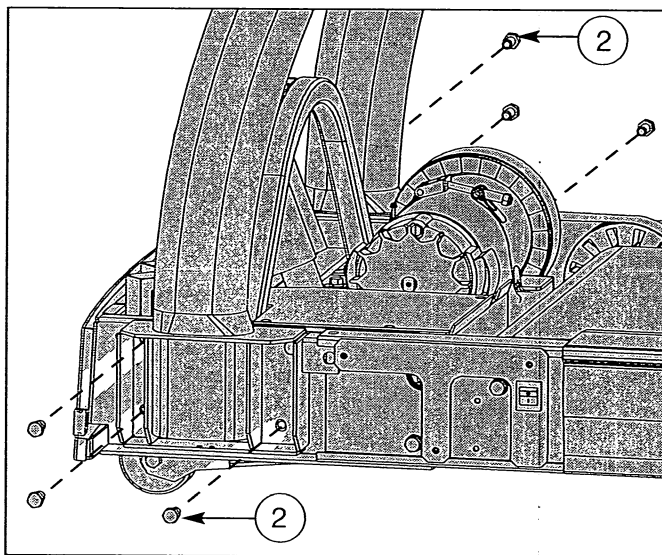

Figure 5
- B. Using a 9/16" socket wrench with a 4" extension, attach the uprights with six of the 3-8-16 x 5-8 hex head whiz-lock screws. **NOTE:** Do not securely tighten the screws until step 7C. See Figure 5.